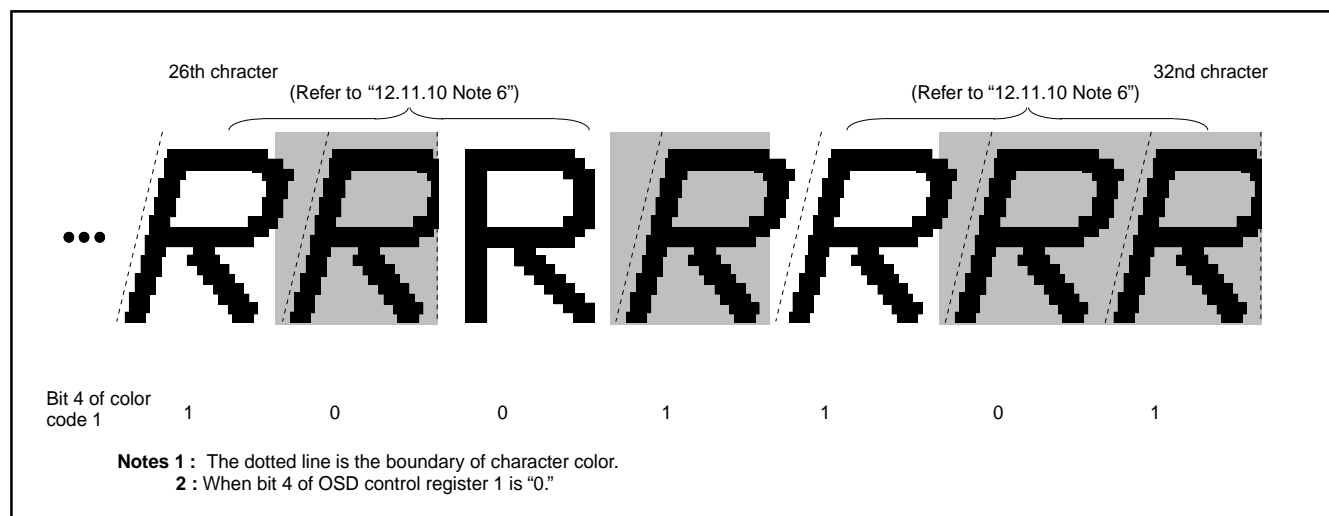

Fig. 8.11.31 Example of Italic Display
The display example of attribute is shown in Figure 8.11.31. In this case, "R" is displayed.
- 5: The boundary of character color is displayed in italic. However, the boundary of character background color is not affected by the italic (refer to Figure 8.11.31).
- 6: The adjacent character (one side or both side) to an italic character is displayed in italic even when the character is not specified to display in italic (refer to Figure 8.11.31).
The border is output only in the OSD mode. The all bordered (bordering around of character font) and the shadow bordered (bordering right and bottom sides of character font) are selected (refer to Figure 8.11.31) by bit 2 of the OSD control register 1 (refer to Figure 8.11.3). The ON/OFF switch for borders can be controlled in block units by bit 2 of the block control register i (refer to Figure 8.11.4).